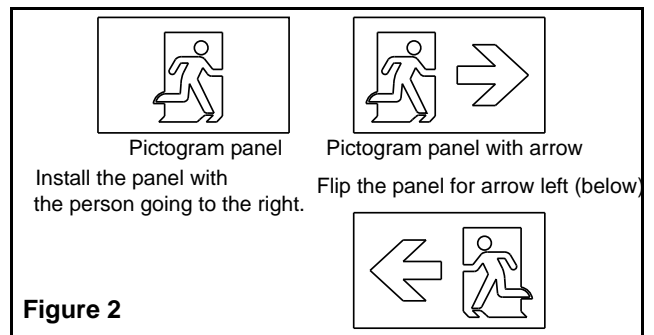

Figure 2
4. Select the appropriate Pictogram panel (see figure 2). Install it into the faceplate by inserting it into the groove of the faceplate behind the clear panel then insert the bottom of the panel into the bottom groove. Insert the opal diffuser behind the pictogram in the same manner.